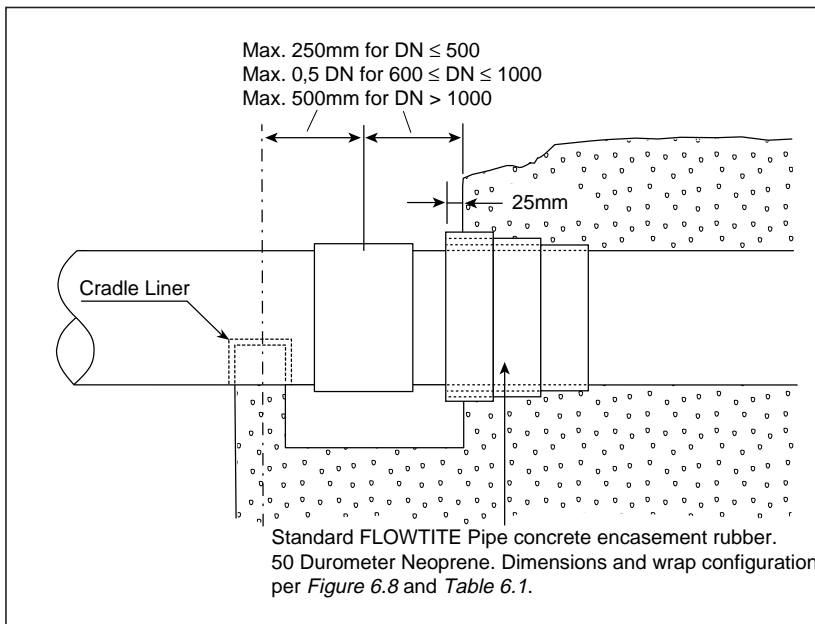
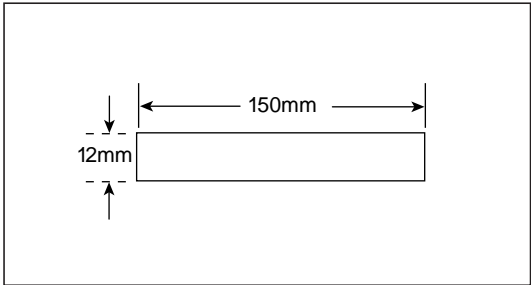

Figure 6.7
Figure 6.8
Where A is not possible, wrap (*Figure 6.7*) a band (or bands) of rubber (*Table 6.1* and *Figures 6.8* and *6.9*) around the pipe prior to placement of any concrete such that the rubber slightly protrudes (25mm) from the concrete. Lay out the pipeline so the first completely exposed coupling joint is located as shown in *Figure 6.7*.
1. Position as shown in *Figures 6.7 and 6.9*.